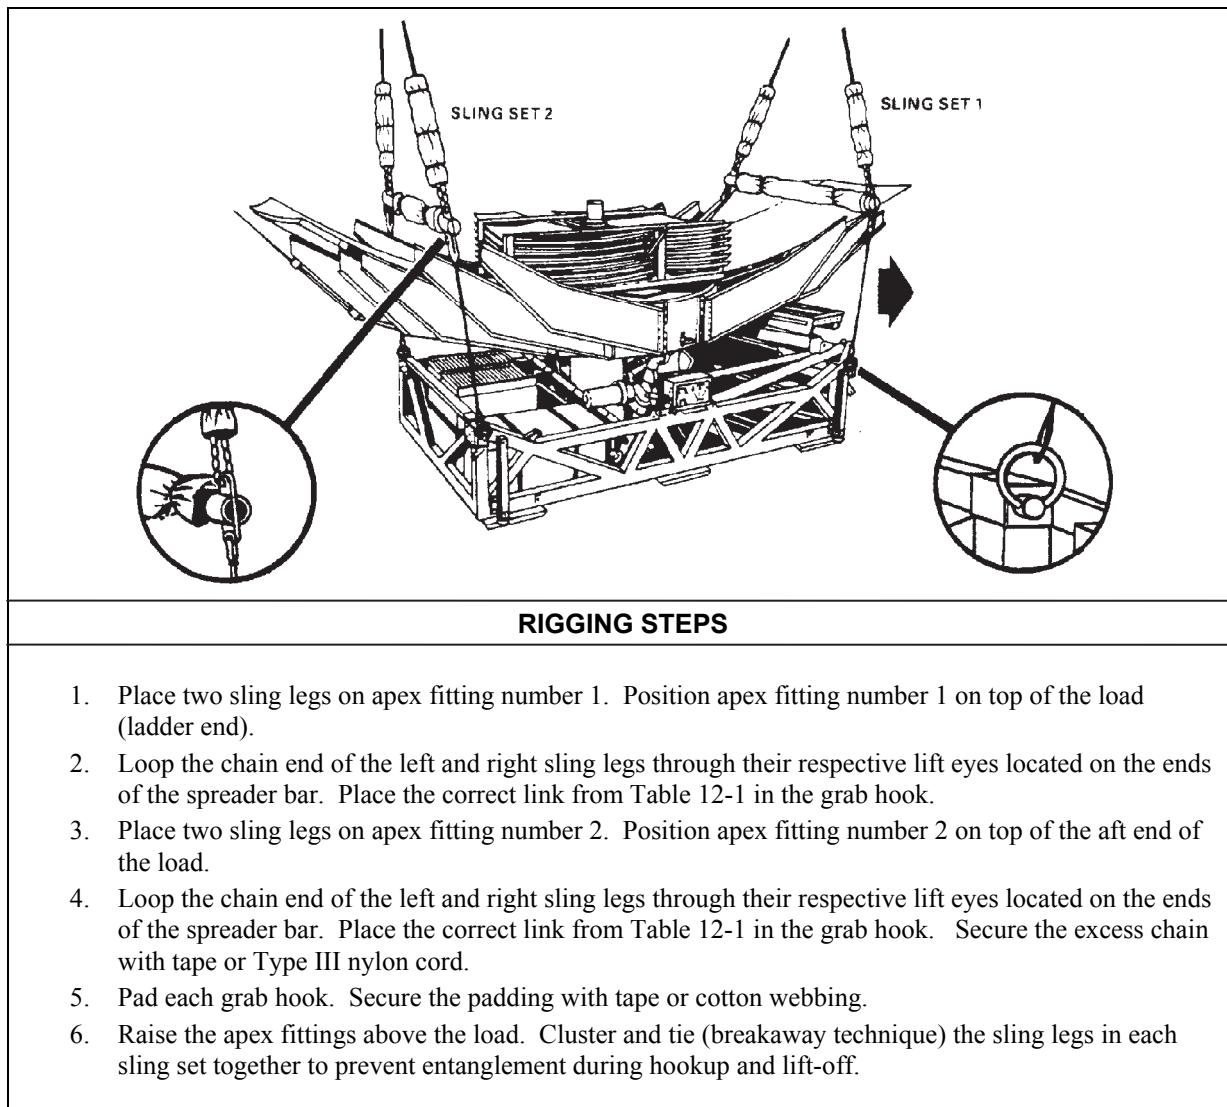

Figure 12-1. OE-361/G Quick Reaction Satellite Antenna
- **Rigging.** Rig the load according to the steps in Figure 12-1.